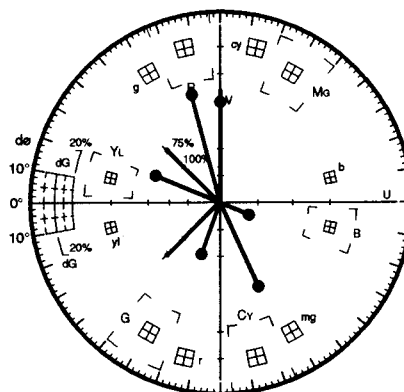

Fig. 5-44
- Repeat adjust from the 5.3.(B).1 and 5.3.(B).2. until both chrominance phase and gain are adjusted to proper position as shown in Fig. 5-44 and Table 5-49.